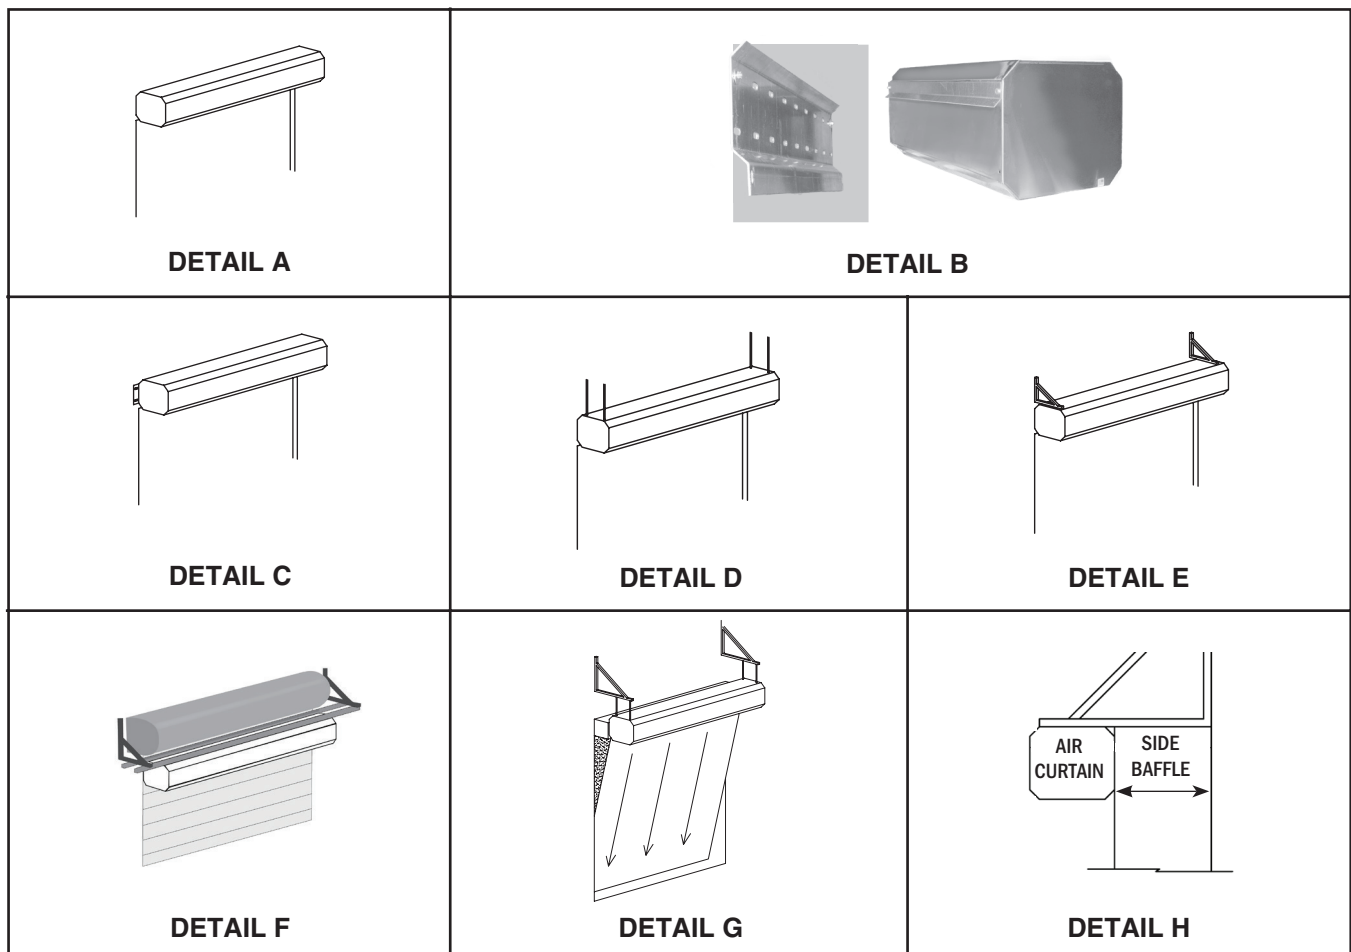

Figure 3. Unit Mounting Configurations
Mount the unit (see Figure 3) as follows:
- a. To wall-mount unit (see Figure 3, DETAIL A):
- (1) Install four 3/8-inch bolts or lag screws through back of cabinet to secure air curtain to wall. Use long ratchet extension to avoid having to remove motor/blower plate.
- (2) Install four bolts or lag screws through 7/8-inch holes in motor/blower plate.
- b. To wall-mount unit using optional quick-mounting plate (see Figure 3, DETAIL B):
- (1) Install quick-mounting plate on back of cabinet using field-supplied 3/8-inch fasteners.
- (2) Secure quick-mounting plate to wall using field-supplied 3/8-inch fasteners.
- c. To wall-mount unit using field-supplied side extension brackets (see Figure 3, DETAIL C):
- (1) Install field-supplied side extension brackets on back of cabinet using field-supplied fasteners.
- (2) Secure side extension brackets to wall using suitable field-supplied fasteners.
- d. To suspend unit using field-supplied threaded rods (see Figure 3, DETAIL D):
- (1) Install 3/8-16 threaded rod into threaded insert in each corner of cabinet top. Ensure that rods do not extend more than 3/4 inch into cabinet.
- (2) Connect threaded rods to ceiling support using suitable field-supplied fasteners.
- e. To wall-mount unit using field-supplied angle brackets (see Figure 3, DETAIL E):
- (1) Install field-supplied angle brackets on top of cabinet using field-supplied fasteners. For proper sizing, provide distance from wall to back of air curtain (maximum offset = 20 inches).
- (2) Secure angle brackets to wall using suitable field-supplied fasteners.
- f. To wall-mount unit when installing new door using field-supplied angle brackets (see Figure 3, DETAIL F):
- (1) Raise door canister above top of opening so that air curtain can be installed below.
- (2) Install field-supplied angle brackets on top of cabinet using field-supplied fasteners. If air curtain is not wide enough to clear door track, install optional mounting struts to extend mounting points for clearance past canister.
- (3) Secure angle brackets to wall using suitable field-supplied fasteners.
- g. To wall-mount unit in front of door canister or other obstruction using field-supplied angle brackets (see Figure 3, DETAIL G):
- (1) Install field-supplied angle brackets on top of cabinet using field-supplied fasteners. If necessary for proper positioning of air curtain, use field-supplied 3/8-16 threaded rods as shown.
- (3) Install suitable side baffles on both sides of air curtain to seal gaps as shown in Figure 3, DETAIL H. Use permanent barriers or PVC strips extended to floor for maximum effectiveness.